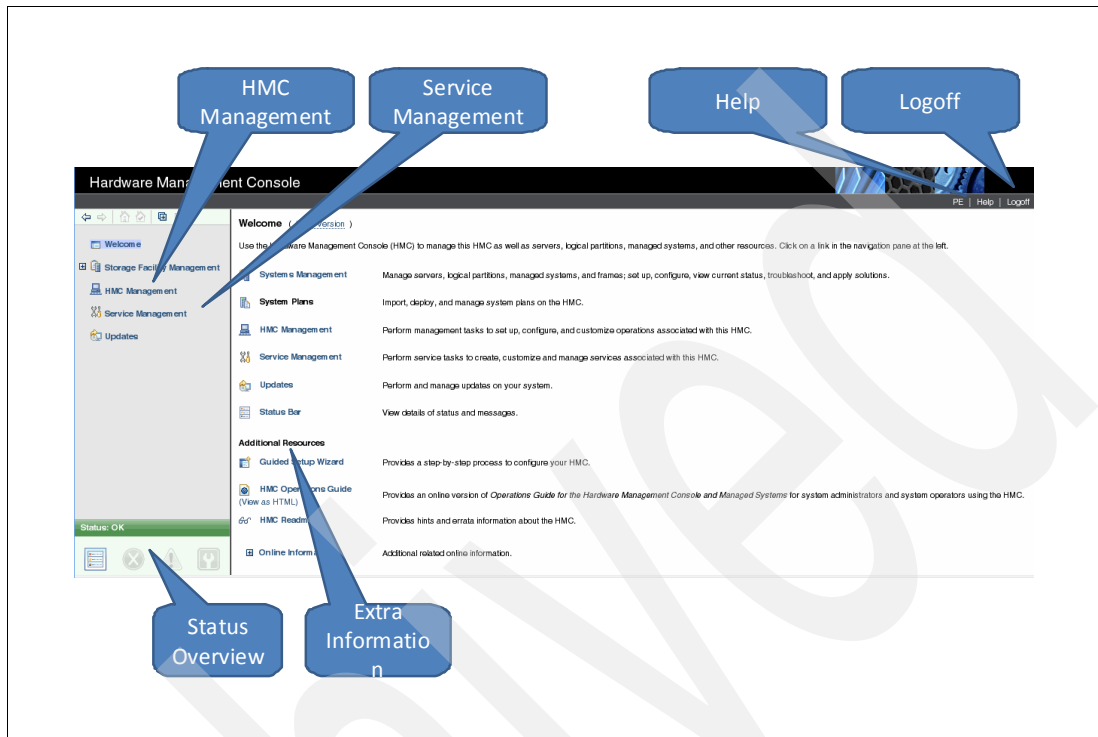

Figure 9-6 WebUI main window
- If you are successfully logged in, you will see the Hardware Management console window, where you can select **Status Overview** to see the status of the DS8700. Other areas of interest are illustrated in Figure 9-6.